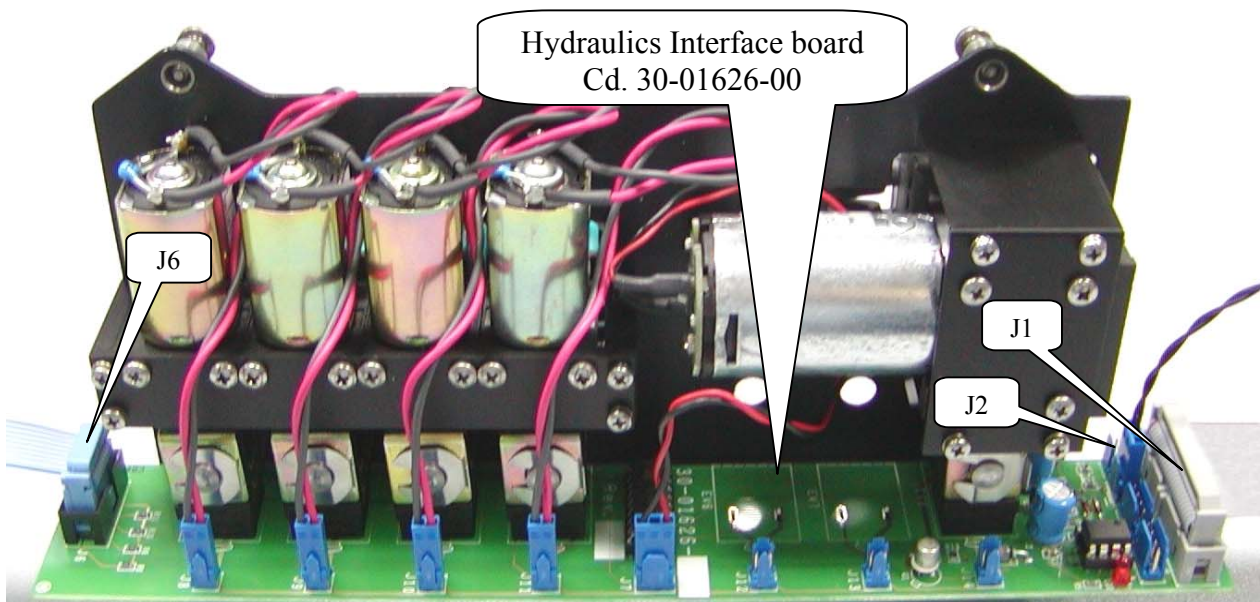

Fig. 81 Wash Pump Assembly (Rear view)**6.7.2 SUBSTITUTION OF PART(S)**
Disconnect connectors J1, J2 e J6 from the Hydraulics Interface board (Fig. 81).
3. If necessary, unscrew the four anchored screws of the assembly and turn it ahead (Fig.81).